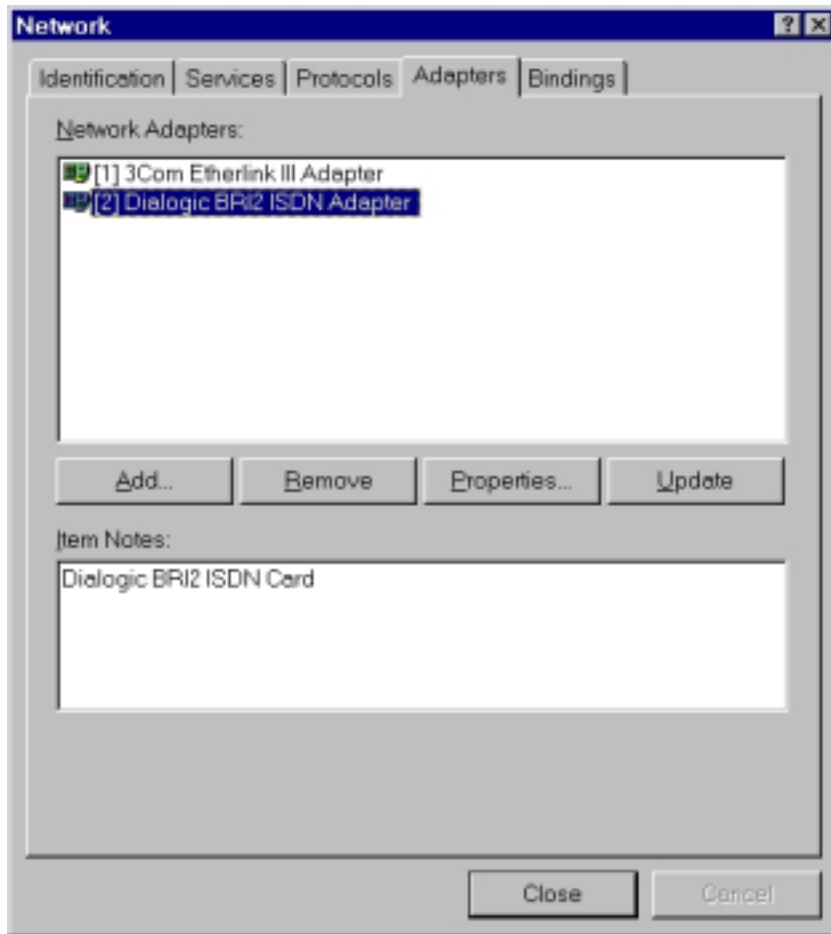

Figure 21. Network Window Showing Intel Dialogic BRI/2 ISDN Adapter
5. Click the **OK** button to close the **Network Configuration** dialog box, then click the **Continue** button to close the **Remote Access Setup** window and finish the port configuration. The **Network** window (Figure 21) is displayed showing the Intel Dialogic BRI/2 ISDN Adapter you just installed.